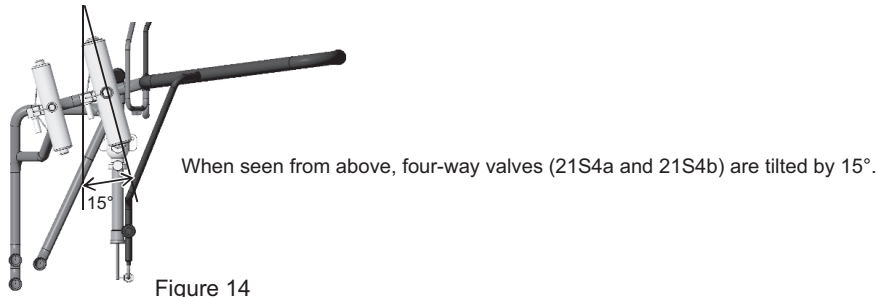

Figure 14
- (14A) Mount a new four-way valve (21S4a). Figure 14 shows how to position a new four-way valve.